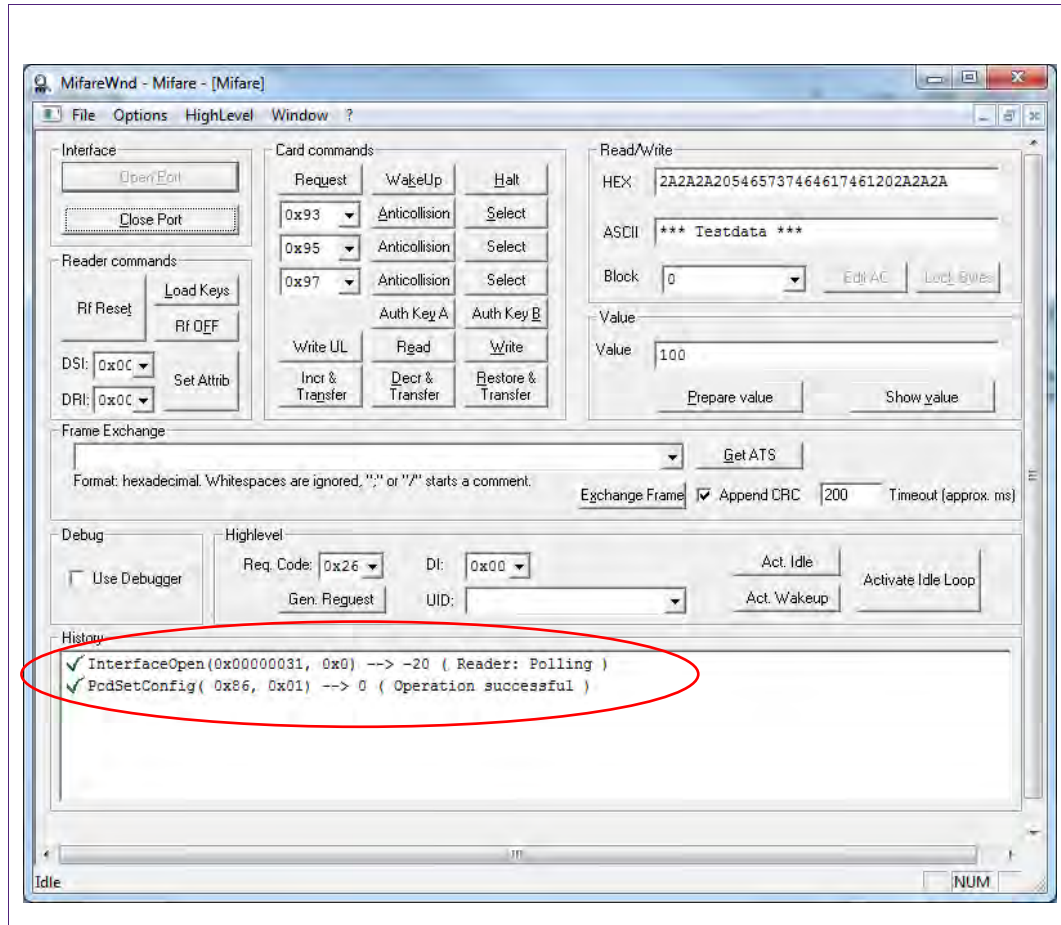

Fig. 7 Connect Successful
- 4) The reader has now been connected and the command history will show two successful commands that have been executed as shown in Fig. 7.